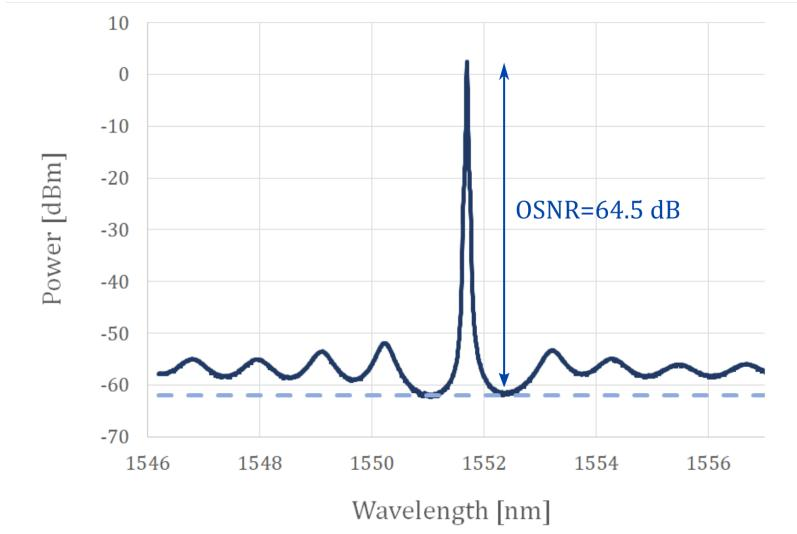

Figure 6: OSNR determination from a laser spectrum acquired with an optical spectrum analyzer. The secondary peaks are side-modes of the DFB laser.
In the present lab, we will consider only the optical signal to noise ratio ($OSNR$). It can be determined experimentally by looking at the optical spectrum of a signal and measuring the contrast between the peak of the source and the adjacent noise level, as illustrated in Figure 6.
4. Vary the pump current from 0 mA to 500 mA by step of 25 mA (21 points in total). Measure the *OSNR* of the amplified laser tone from its prominence over the noise background (as in Figure 6). Also look at how the ASE evolves as you raise the pump power.